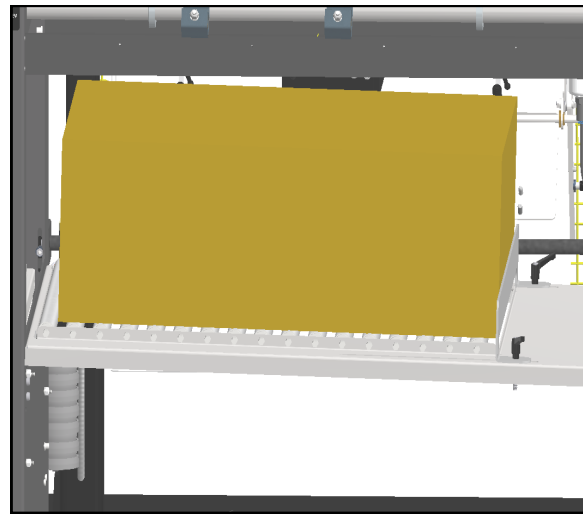

Figure 4-7C. Box In Place.
3. Place open box of bags onto rollers. Guide box into unwind. Figure 4-7C.